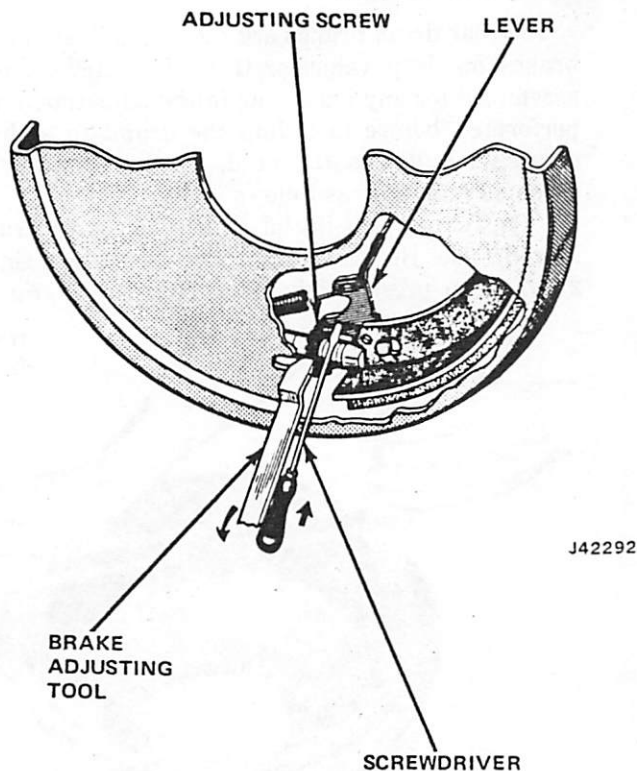

Fig. 2G-6 Adjusting Drum Brakes Manually
**CAUTION:** The automatic adjuster lever must be disengaged from the adjuster screw before the screw can be rotated. Use a thin blade screwdriver or section of 1/8 welding rod to unseat the adjuster lever (fig. 2G-6).
(6) Install access slot cover in brake support plate.
(7) Check brake operation before moving vehicle.
(8) Complete rear brake and pedal travel adjustment by driving vehicle in reverse and making 10 to 15 firm brake applications. Make one forward brake application between each reverse application to equalize adjustment.